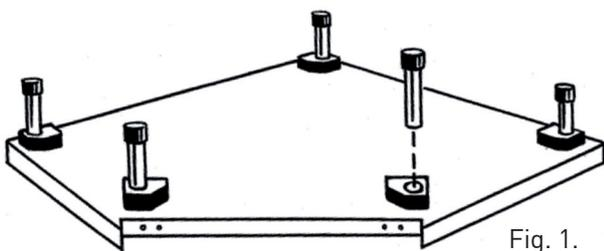

Fig. 1.
1. Lay the floor panel upside down and push the adjustable plinth legs into the plastic cups until they are fully home (Fig. 1).